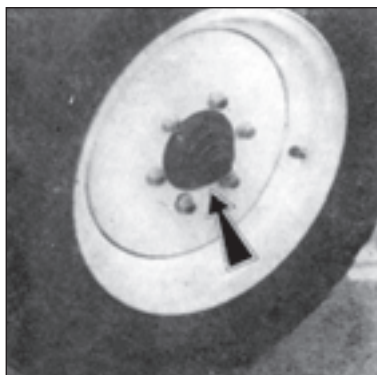

Fig. 192
1. Unscrew the bearing cover (Fig. 192) and remove the split pin.